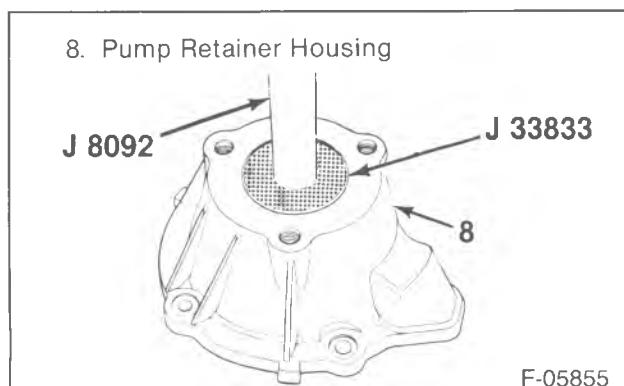

Figure 11—Pump Retainer Housing Bearing Installation
2. Needle bearing (24), to the rear case half (17) using J 36372 and J 8092.
3. Bearing (61) to the front case half (45) using J 9092 and J 33833.
4. Retainer (60).
5. Bearing (6) to the pump retainer housing (8) using J 33833 and J 8092 (figure 11).
6. Bearing (84) to the input gear (38) using J 36372 and J 8092.